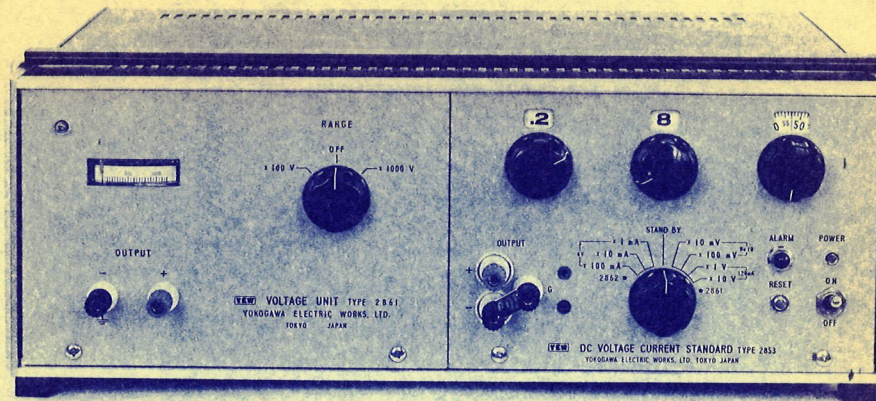

Fig. 2.2 External View of Type 2861 Voltage Unit housed with Type 2853 into one case
- (1) Connect Type 2861 to Type 2853 using the cord connected with Type 2861. Plug the cord into the connector "2861" on the rear panel of Type 2853. (Refer to Fig. 2.2)
- (2) Place the setting dial of Type 2853 to the zero position.
- (3) Place the range switch of Type 2861 to the 'OFF' position.
- (4) Change over the range selector switch of Type 2853 to the "2861" position.
- (5) Turn on the power switch of Type 2853. Then, the power lamps of Type 2853 and Type 2861 will light. If the "ALARM" lamp of Type 2853 lights, push the "RESET" button to restore the instrument to the normal condition.
- (6) Warm-up the instrument for about 10 minutes under this state.